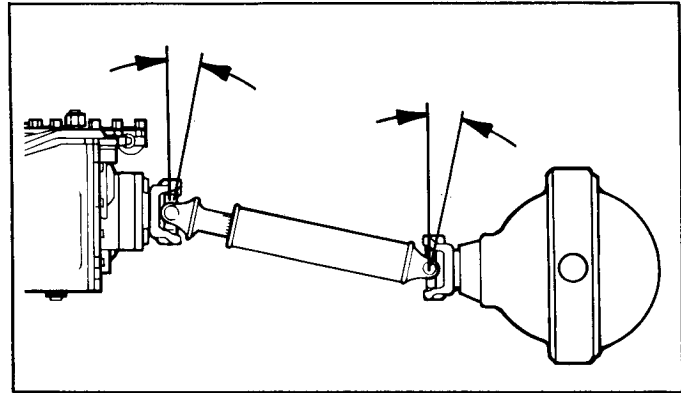

Figure 15. Transmission and rear axle readings should be equal.
- Example:** If transmission angle reading is 3 degrees down to the rear, the rear axle angle should be 3 degrees up, Figure 15.